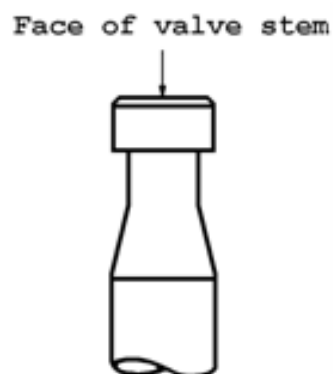

Fig.30
- Check if the end of the valve stem is pitted or worn (Fig. 30).